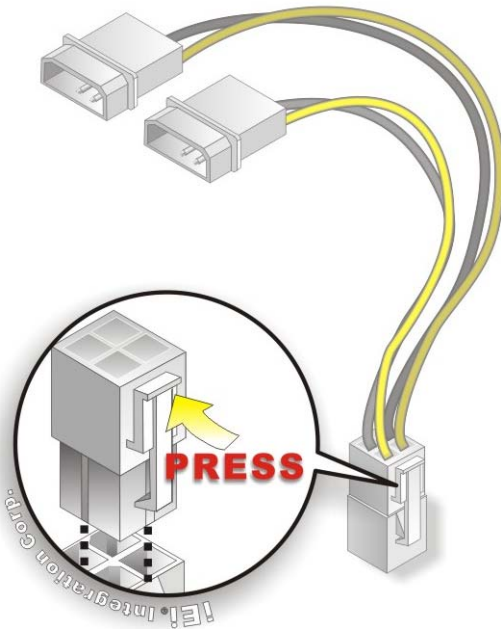

Figure 4-6: Power Cable to Motherboard Connection
Step 2: **Connect the Power Cable to the Motherboard.** Connect the 4-pin (2x2) Molex type power cable connector to the AT power connector on the motherboard. See Figure 4-6.